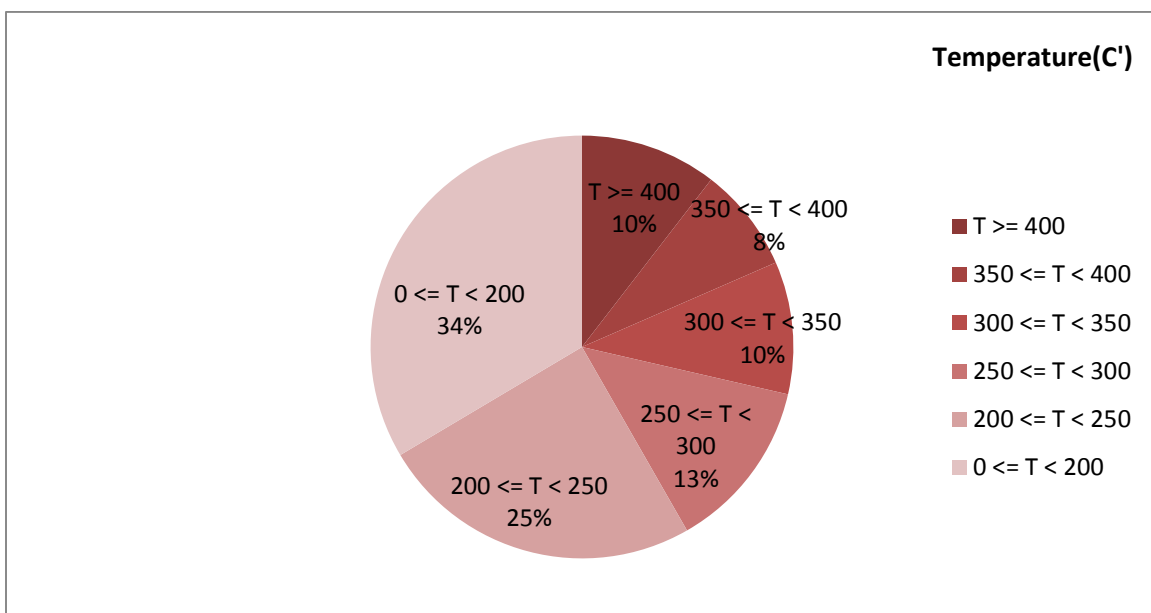

Figure 2-Temperature distribution over the working hours
**Notice:** Temperature sensors got problem on Aug 20th and was fixed on Aug 25th. So figure 2 data belong to temperature sensors working days (Aug 26th to Aug 31st).
- Figure 2 displays flow temperature before the DPF. It can be obviously observed that 10% of total working time temperature is above 400 °C and 18% above 350°C. This high temperature distribution is one of the important factors for filter excellent operation during the period.